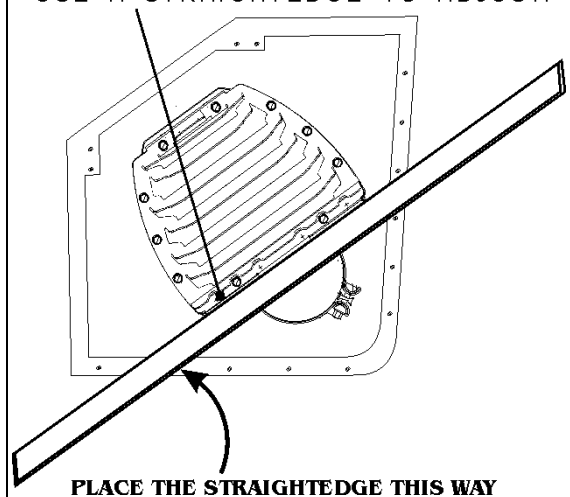

FIGURE 8: DIFFUSER POSITION ADJUSTMENT 04015\_2
3. Using a straightedge, adjust the diffuser assembly level. The top surface of the warning plate fixed on the diffuser louvered cover must be flush with the roof surface (fig.8). It may exceed about 1/4in (6mm). Place the straightedge as shown on figure 8.